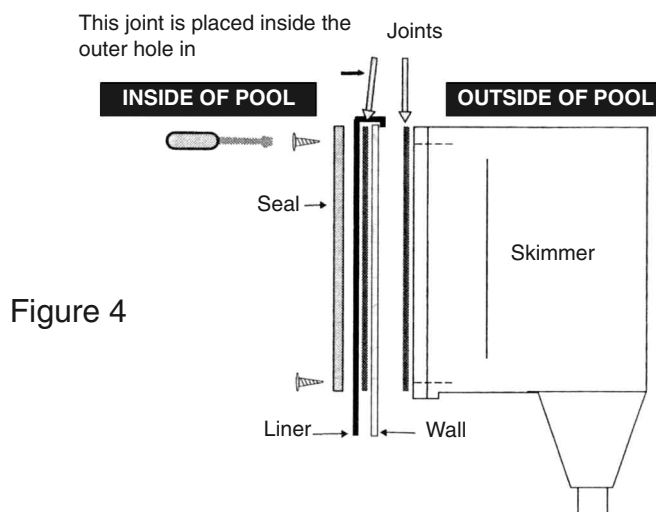

Figure 4
- Place the other seal and the skimmer on the outside of the wall, in such a way as to sandwich: the seal, the liner, one joint, the wall, the other joint and the body of the skimmer (figure 4).